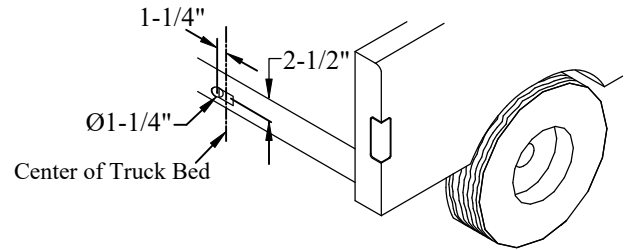

Figure 4: Spare tire access hole location.
2. **Drill** a 1-1/4" diameter hole, 1-1/4" to the left of the center of the bed, and 2-1/2" down from the top of the bed (Figure 4).